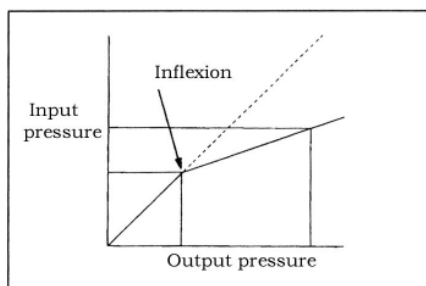

Fig. 16-12
- (2) Bleed the brake line and the pressure gauges.
(3) Depress the brake pedal gradually. Then check that the split point, where the output fluid pressure begins to drop in proportion to the output fluid pressure, is at the standard value. (see Fig.16-12)。